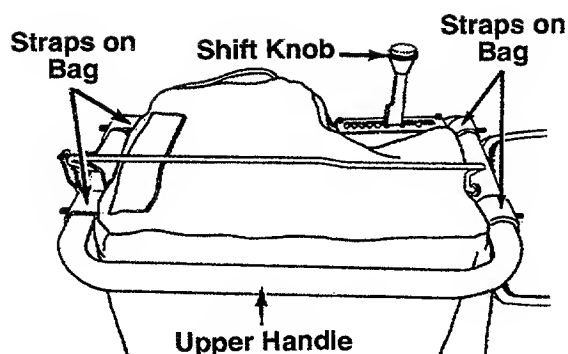

FIGURE 7.
NOTE: To determine right and left hand sides of your chipper-vacuum, stand behind and face the unit (Refer to figure 7).
- Place the four straps on the top of the bag over upper handle, hooking them on studs. See figure 7.